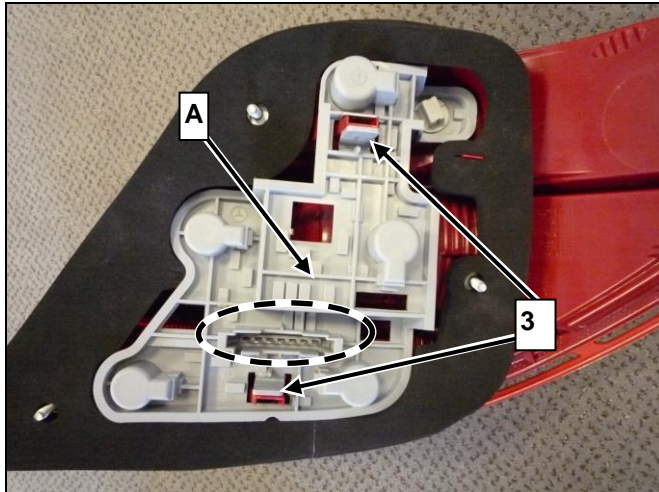

Figure 3
-  Squeeze tabs (3, Figure 3) together to remove bulb carrier (A) from tail lamp.